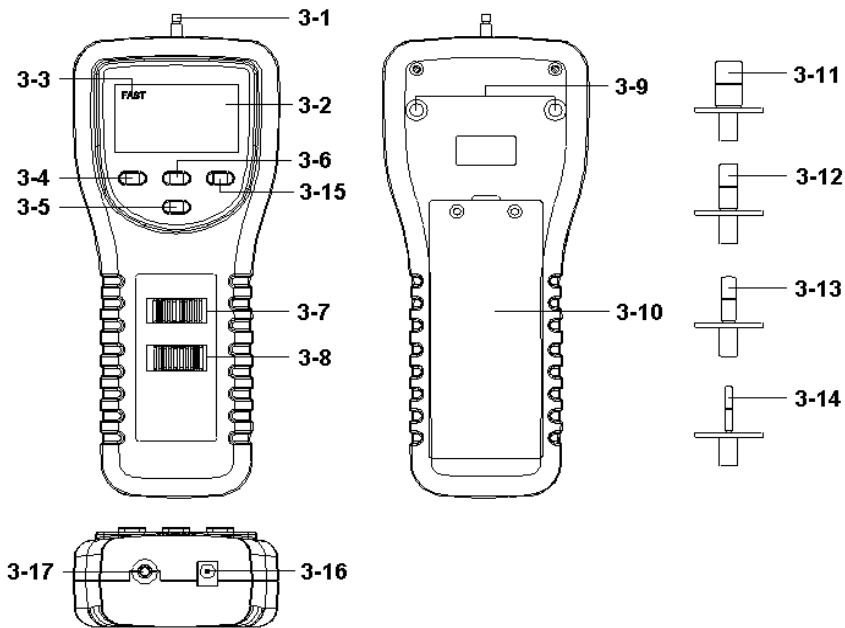

Fig. 1
- 1) Slide the " Power Off/On/Peak Hold Switch " ( 3-8, Fig. 1 ) to the " On " position.
- 2) Determine display unit of g, oz or Newton by selecting " Kg/Newton/LB Unit Switch " ( 3-7, Fig. 1 ).
- 3) Connect " Sensing Head " ( 3-1, Fig. 1 ) with proper " Adapter " ( 3-11 to 3-14, Fig. 1 ) and the " Measuring Object " should be in straight line. Don't give any force in standby mode..
- 4) " Zero Adjust " by pushing " Zero Button " ( 3-6, Fig. 1 ) before every measurement.
*\* During the measurement, if intend to change the display direction, just push the " Reverse Button " ( 3-5, Fig. 1 ) once.*
- \* There are two kind sampling time of display, FAST and SLOW. Push the " FAST/SLOW Button " once ( 3-4, Fig. 1 ), if the upper left corner of LCD show " FAST " ( Fast Indicator, 3-3, Fig. 1 ), then the display reading is under the operation of fast sampling time.
- \* If the upper left corner of LCD not show the " Fast Indicator " ( 3-3, Fig. 1 ), the display reading is under the slow sampling time.
The meter can measure the peak value of force both of tension & compression operation. The operation procedures of Peak Hold Measurement are same as above " 4-2 Normal Measurement " but should slide the " Power Off/On/Peak Hold Switch " ( 3-8, Fig. 1 ) to the " PEAK H. " position.
Slide the " Power Off/On/Peak Hold Switch " ( 3-8, Fig. 1 ) to the " On " position will cancel the peak hold function.
During the measurement, press and hold ( > 2 seconds ) the " \* Button " ( 3-15, Fig. 1 ) until LCD Back Light is ON, then it will be off after a period time. several seconds then off automatically
- 2) Take out the battery cover ( 3-10, Fig. 1 ) away from the instrument and remove the batteries.
The instrument features an RS232 output via 3.5 mm Terminal ( 3-17, Fig. 1 ).
Fruit hardness tester is a precise instrument, best results are obtained when the gauge is fitted to a test stand. Mounting holes ( 3-9, Fig. 1 ) are provided on the back of the gauge for easy stand mounting.